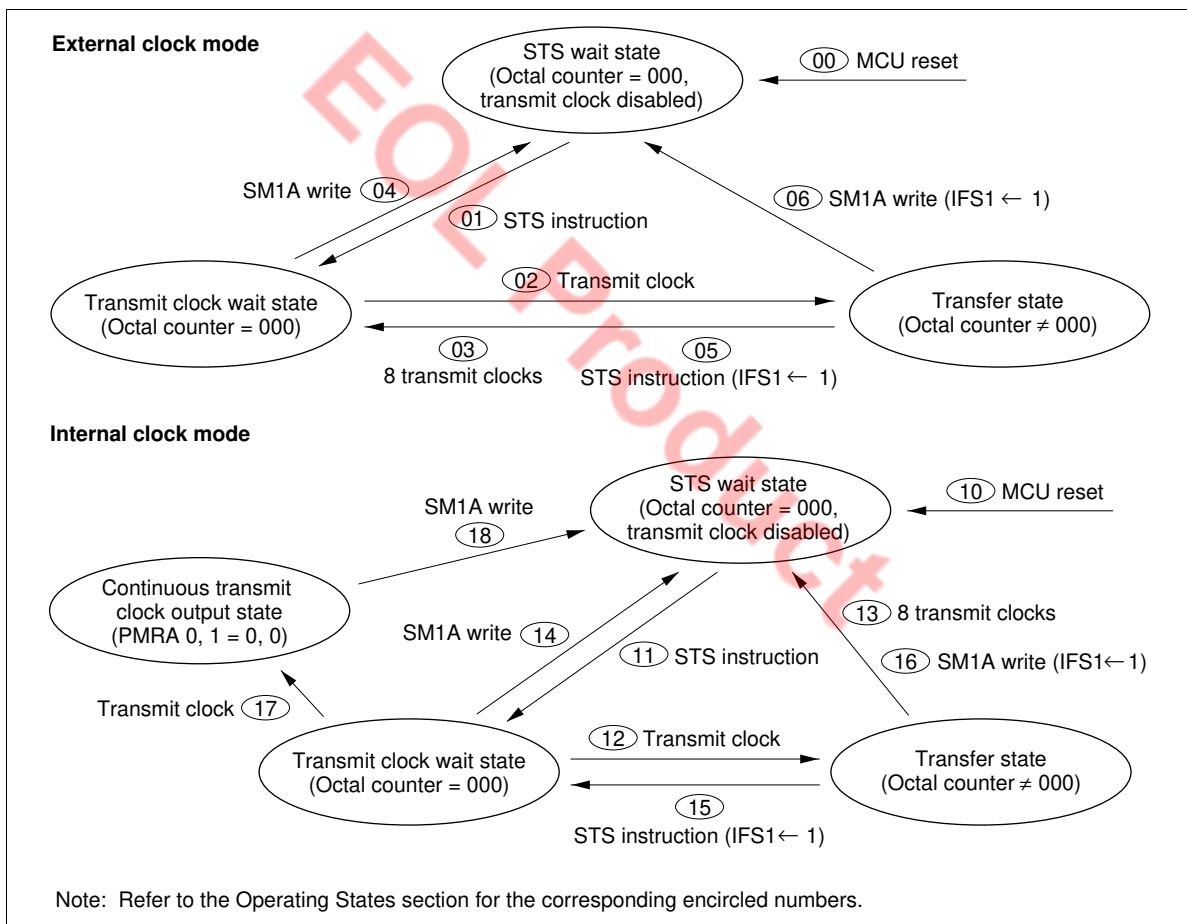

Figure 50 Serial Interface State Transitions
**Operating States:** Serial interface 1 has the following operating states; transitions between them are shown in figure 50.
- STS wait state: The serial interface enters STS wait state by MCU reset (00, 10 in figure 50). In STS wait state, serial interface 1 is initialized and the transmit clock is ignored. If the STS instruction is then executed (01, 11), serial interface 1 enters transmit clock wait state.
- Transmit clock wait state: Transmit clock wait state is between the STS execution and the falling edge of the first transmit clock. In transmit clock wait state, input of the transmit clock (02, 12) increments the octal counter, shifts serial data register 1 (SR1L: \$006, SR1U: \$007), and enters the serial interface in transfer state. However, note that if continuous clock output mode is selected in internal clock mode, the serial interface does not enter transfer state but enters continuous clock output state (17).